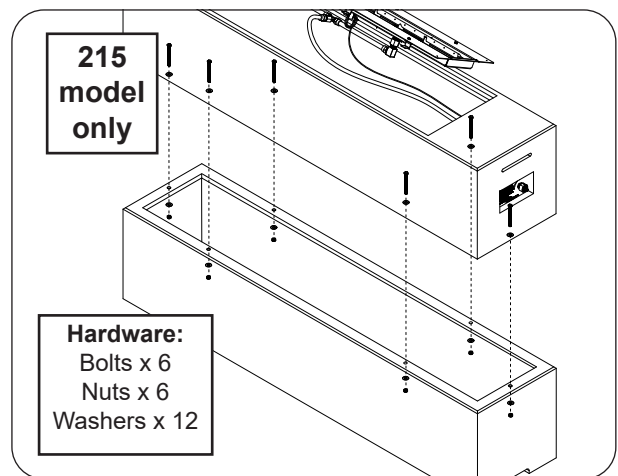

Fig. 24-1 Assemble unit (if applicable)
1. Insert the hardware kits in the order shown in Fig. 24-1. Hand tighten, then use two $\frac{1}{2}$ " open end wrenches (or equivalent) to fasten.